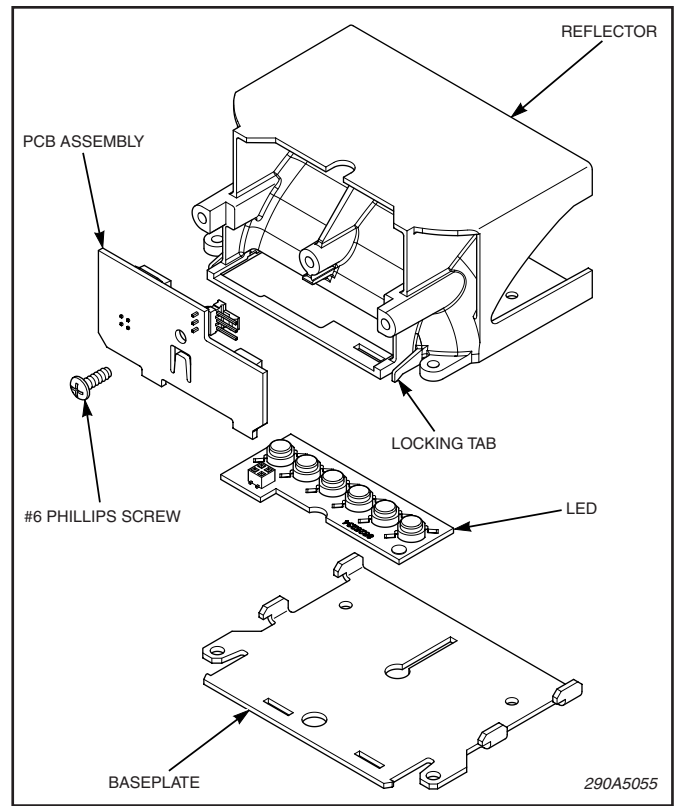

Figure 11.
H. *PCB Backer Board Assembly Replacement, Solaris LEDs (see figure 11 or 12).*
J. *LED Module Replacement, Solaris LEDs (see figure 11 or 12).*